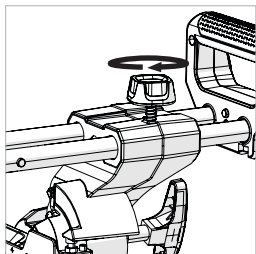

Fig. 12
- Screw the carriage slide locking screw into the threaded hole above the right hand arm of the carriage slide. (**Fig. 12**)